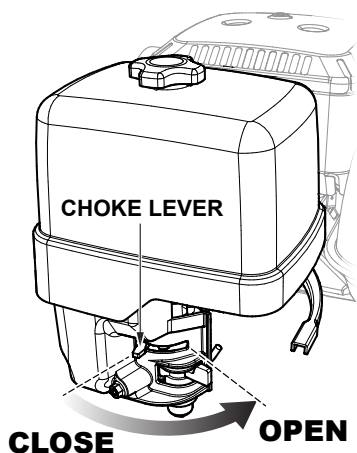

Figure 44. Choke Lever (Open)
5. If starting a warm engine, place the choke lever in the **OPEN** position (Figure 44).